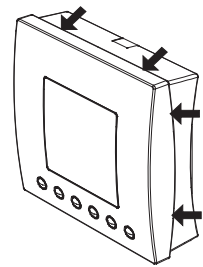

Fig. 1 Detaching the LDU display panel.
The LDU200-SMT is shipped in an assembled manner in order to protect the electronic components. Detach the display panel of the device by gently pressing on the panel as the arrows indicate in Figure 1 and pulling the front panel outward simultaneously.
1. Select the installation location; the wall must be flat and clean. Detach the display panel of the device by gently pressing on the panel as the arrows indicate in Figure 1 and pulling the front panel outward simultaneously.
3. Detach the display panel of the device by gently pressing on the panel as the arrows indicate in Figure 1 and pulling on the front panel simultaneously.